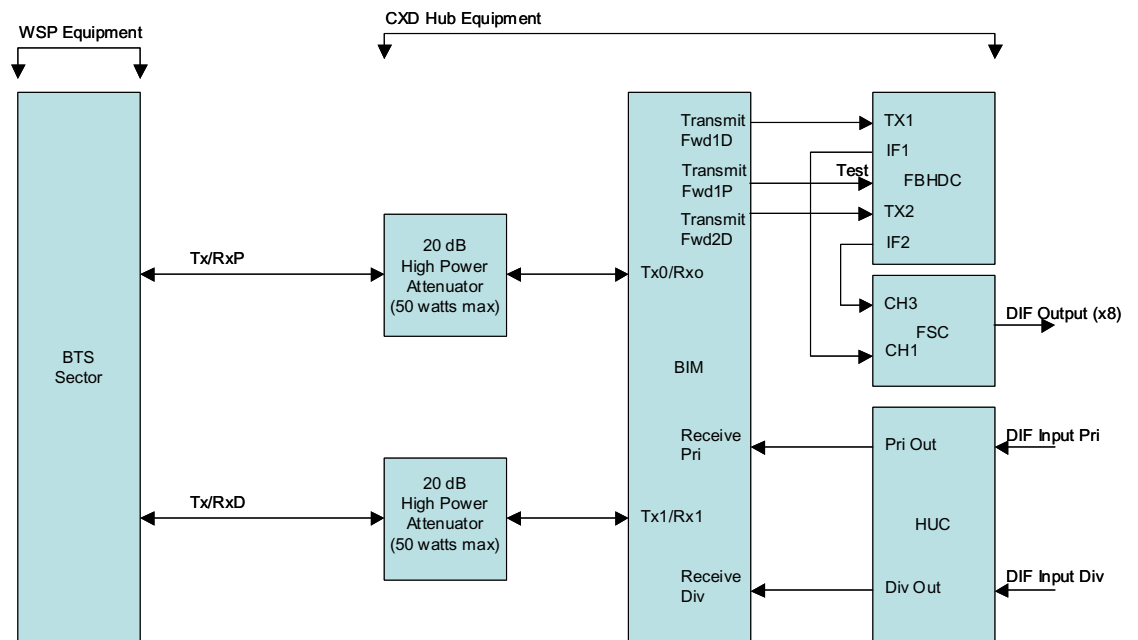

Figure 2-26. Transmit Diversity
3. Transmit Diversity – Keep Tx0/Tx1 separated (see Figure 2-26).